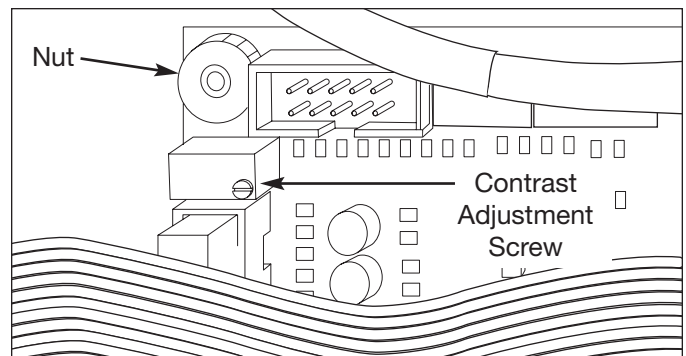

Figure 4-33. Remove Jumper From Old Board
6. When replacing a control board it may be necessary to adjust the contrast of the user display. The adjustment screw is located on the top of a small blue housing located below the upper left control board retaining nut. (See Figure 4-33)